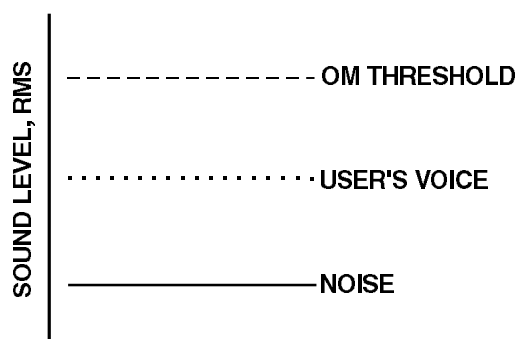
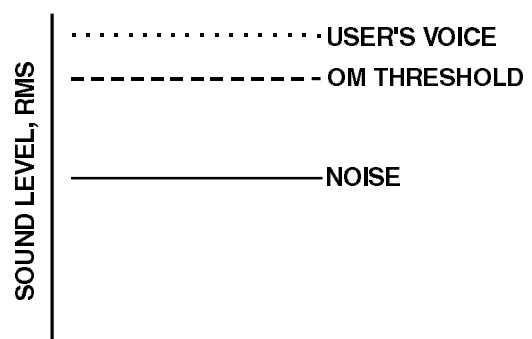

Figure 52
Figure 53
The microphone gain controls on the base station and beltpack are set to mid-levels by the factory. In most cases this setting will work fine and only on loudest speech will the overmodulation (OM) indicator light. However, in environments where the background noise is loud or the user has a strong/quiet voice, the gain control will need to be adjusted. In Figure 52 the gain is set correctly. The user's root-mean-square (RMS) sound level is well below the OM threshold and only on a few loud peaks does his or her voice flash the OM indicator light. Figure 53 displays the same gain setting as in Figure 52, but brought into a high noise environment. The user's voice now lights the OM indicator over half the time he or she speaks due to the higher noise plus the user speaking louder. The result on the system is distortion with possible "clipping" on louder speech. The microphone gain must be reduced. The same applies to a user with a powerful voice. If someone sets the system mic gain to their voice and user has a much stronger voice, then the gain will need to be reduced, even if the background noise is the same.